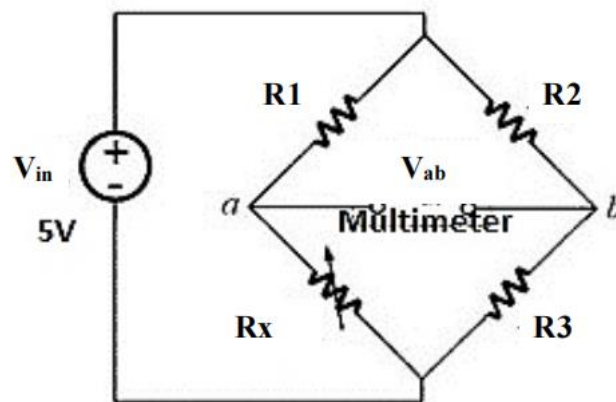

Figure 1: Wheatstone bridge circuit
3. Connect the circuit as shown in Figure 1